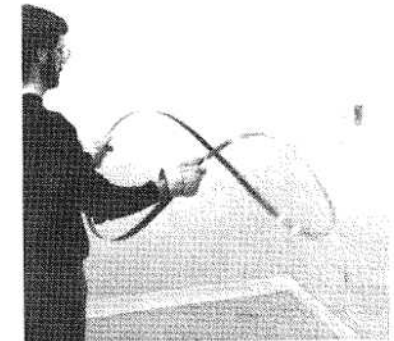

FIGURE B-2. BLADE COILING STEP #2.
2. See Figure B-2. Keeping your wrists locked in position, turn your forearms upward and inward. (The teeth will rotate inward and the bottom of the blade will rotate outward.)